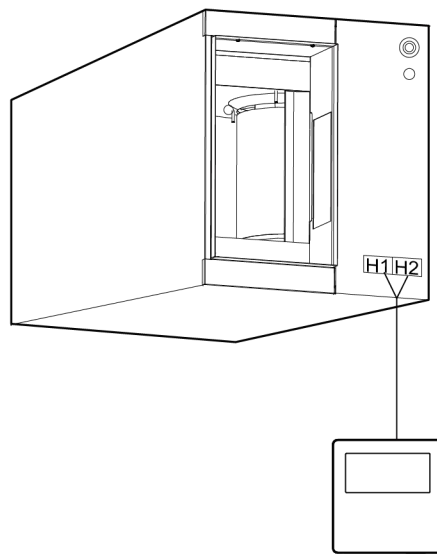

Fig.5.4.1
- 1) Fig 5.4.1 shows the installation of wired controller.